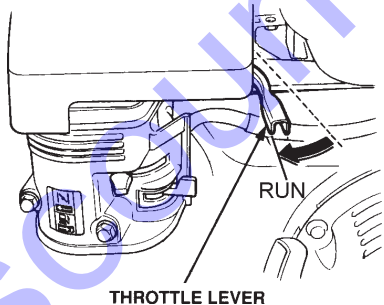

Figure 8. Throttle Lever (Run)
- To begin pumping, place the throttle lever (Figure 8) in the "RUN" position.